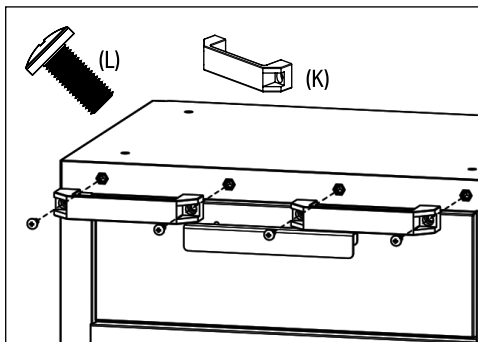

Fig. 1
7.1 Fitting the Roller Cabinet (4) & (5) Grab Handles (Fig.1)
- Attach the grab handles (K) to the front of the cabinets using M8 flat head bolts (L) $\times$ 2 per handle.